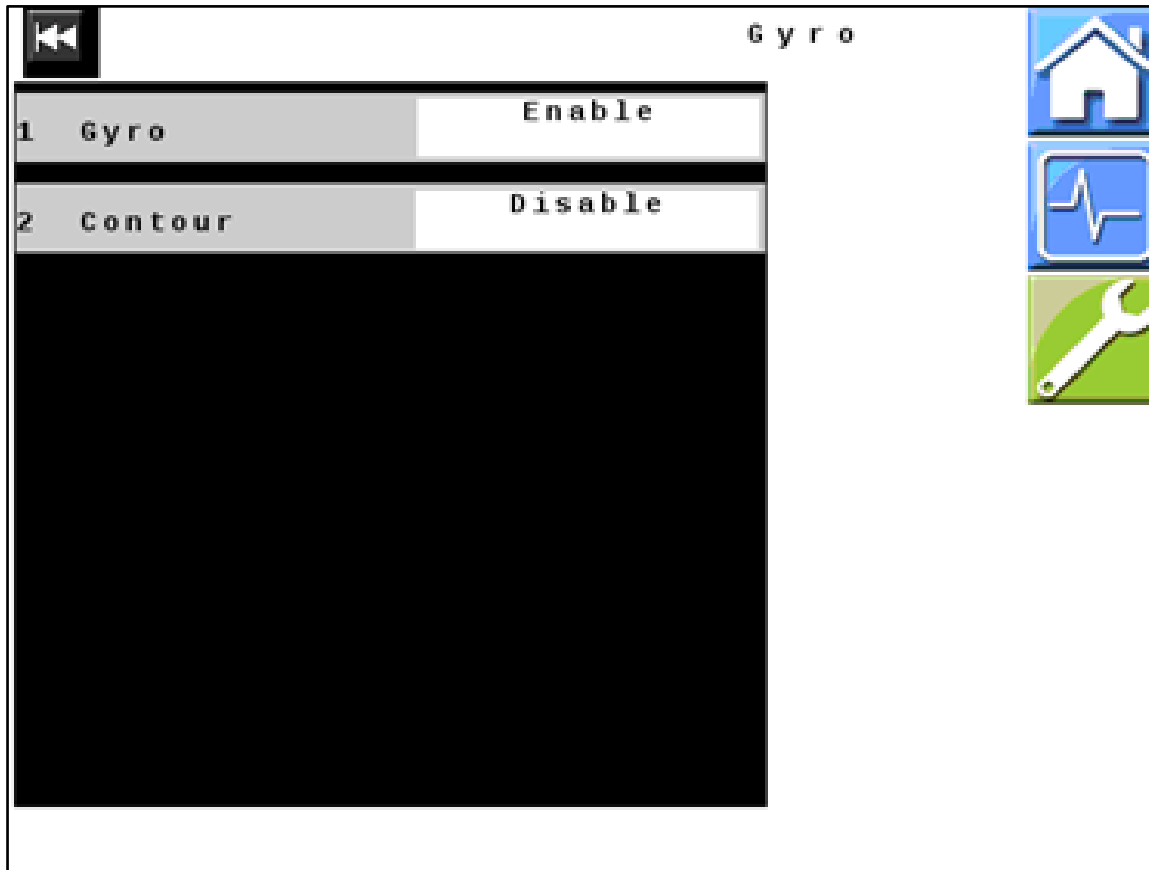

Figure 25 — Gyro
44. *Figure 25:* Verify that all values displayed on your unit match those shown here. Change values if necessary.